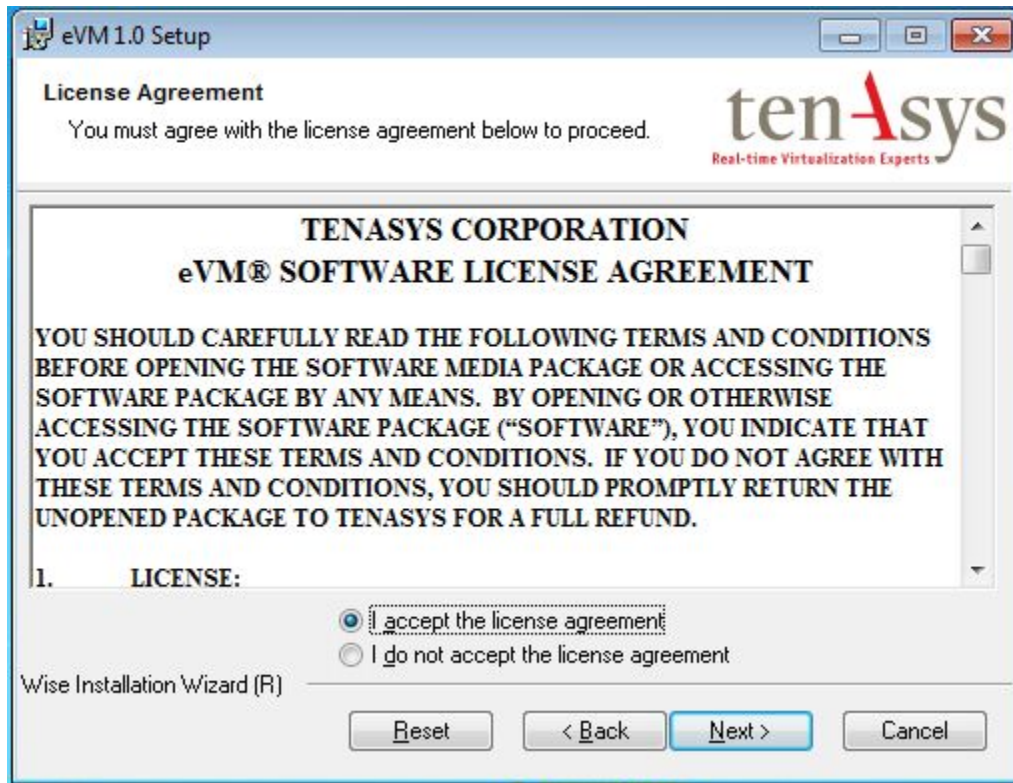

Figure 4.5 - TenAsys eVM Software License Agreement
5. Read and accept the TenAsys eVM Software License Agreement; and click **Next** to continue, see Figure 4.5